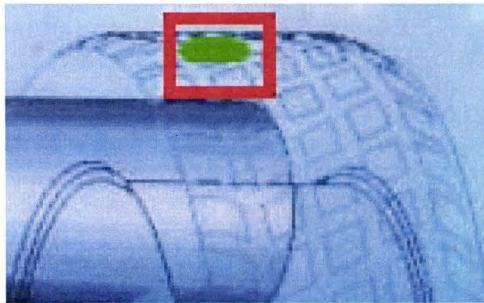

Figure 8
- Rotate the assembly on the spindle until the high point is at 12 o'clock and the Brown dash turns to Green (Figure 8).